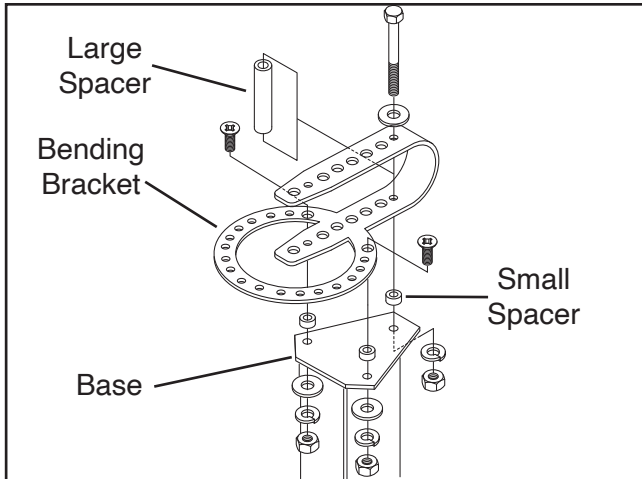

Figure 3. Mounting bending bracket to base.
1. Mount the bending bracket to the base using the components shown in **Figure 3**.